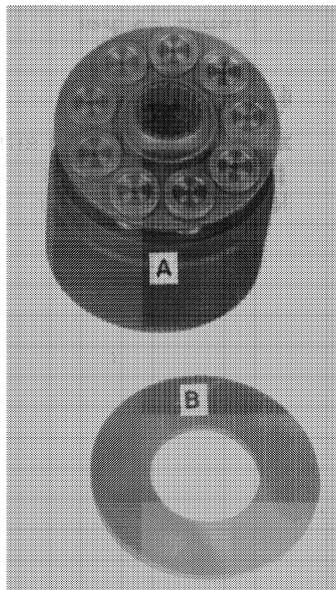

FIGURE 5-7
6. Hold the rotating piston block, A, Figure 5-7, in one hand and tilt the open end of the housing down. Turn the rotating piston block and pull it out as a complete unit without scratching or burring the parts.
8. Remove the replaceable cam plate, B, Figure 5-7.